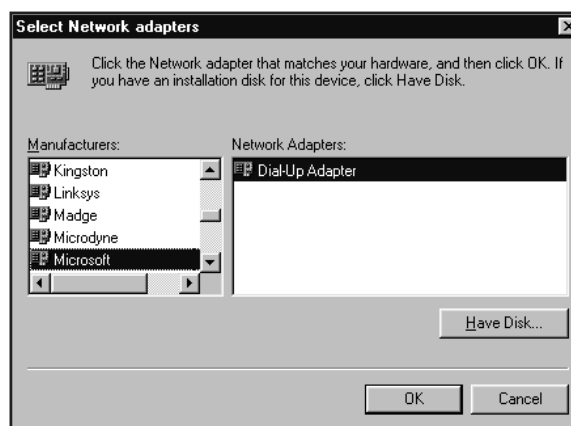

Figure 190 Select Network Adapters
3. Another dialog will appear which allows selection of network adapters (Figure 190). Select the appropriate vendor and network adapter card to match the one